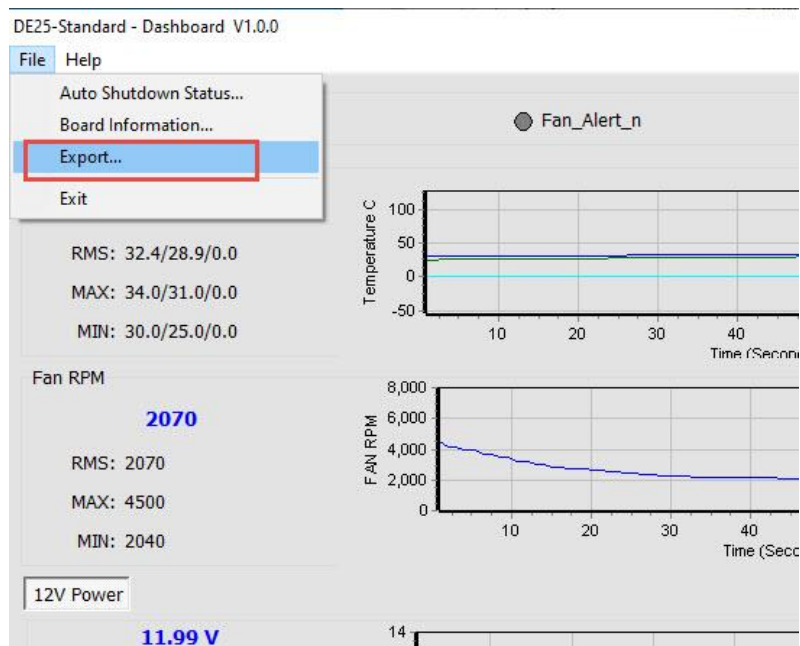
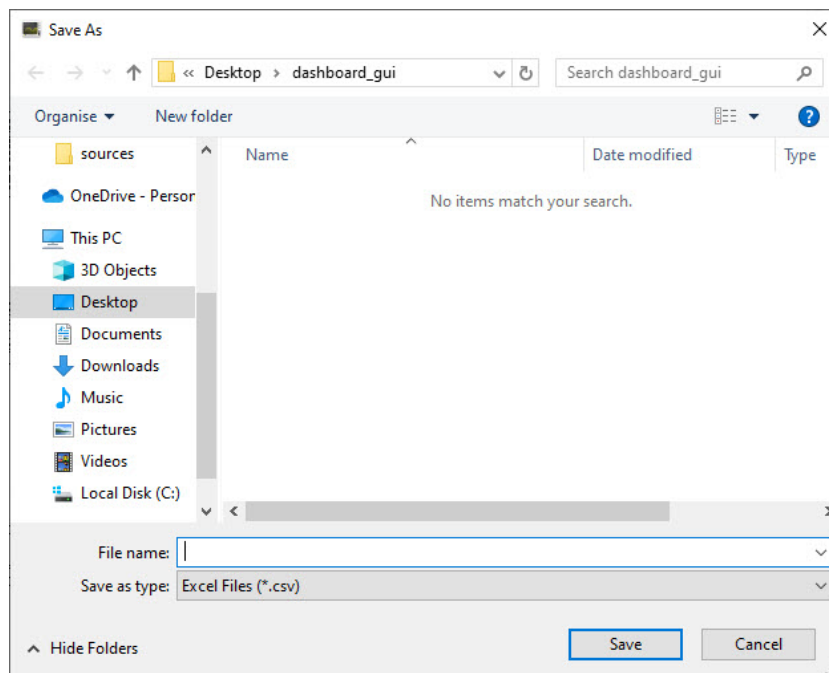

Figure 4-16 Export the log file
Figure 4-17 Export the log file in .csv format
- **Log File:** On the upper left of the Dashboard GUI program window, click the Export in the File page to save the board temperature, fan speed and voltage data in .csv format document, as shown in **Figure 4-16** and **Figure 4-17**.